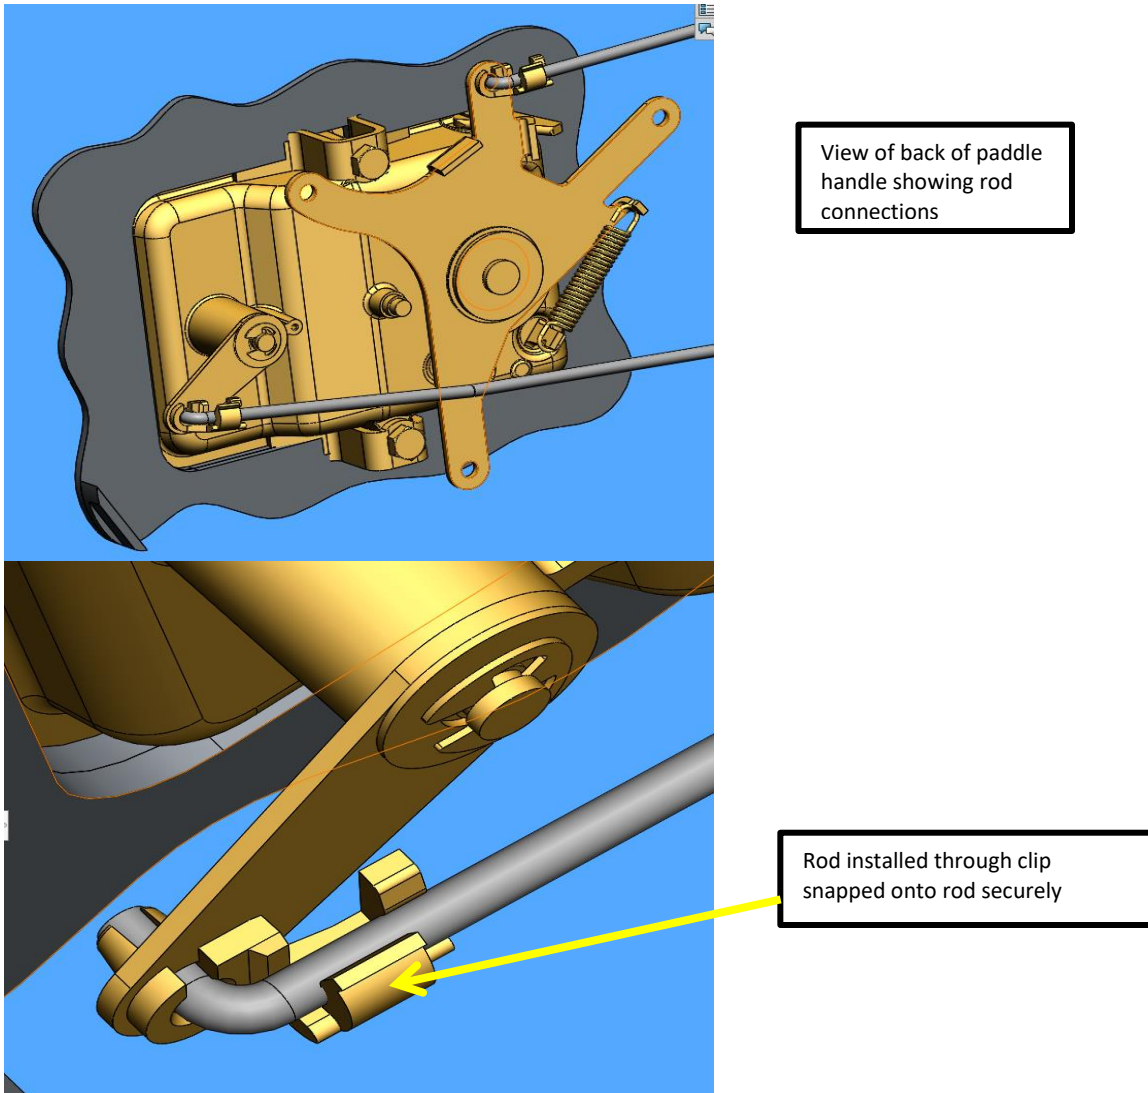

FIG. 11-1
11. Reinstall retained door panels. During door panel re-installation, window regulator and door latch rods **must** be re-connected. Ensure rod clips are clipped onto rods securely. Refer to FIG. 11-1.